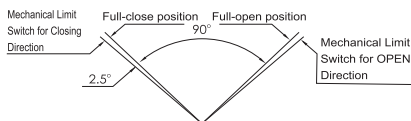

Fig. 10
- ① If no special requirement, the stroke of actuator is set to 90° between Full-close position and Full-open position at the ex-factory debugging. After the valve is equipped by user, it is necessary to readjust the angle if the Full-close position and Full-open position of the valve are not same as the Full-close position and Full-open position of the Electric actuator. The mechanical limit must match up to the requirement of Fig.10 as you adjust it.
- ② User is not allowed to adjust the potentiometer and gear as the opening potentiometer of all adjusting type (Type E) has been considered that the possible changes of Full-open and Full-close positions will lead to the deviation of working area of potentiometer when the valve is adjusted.